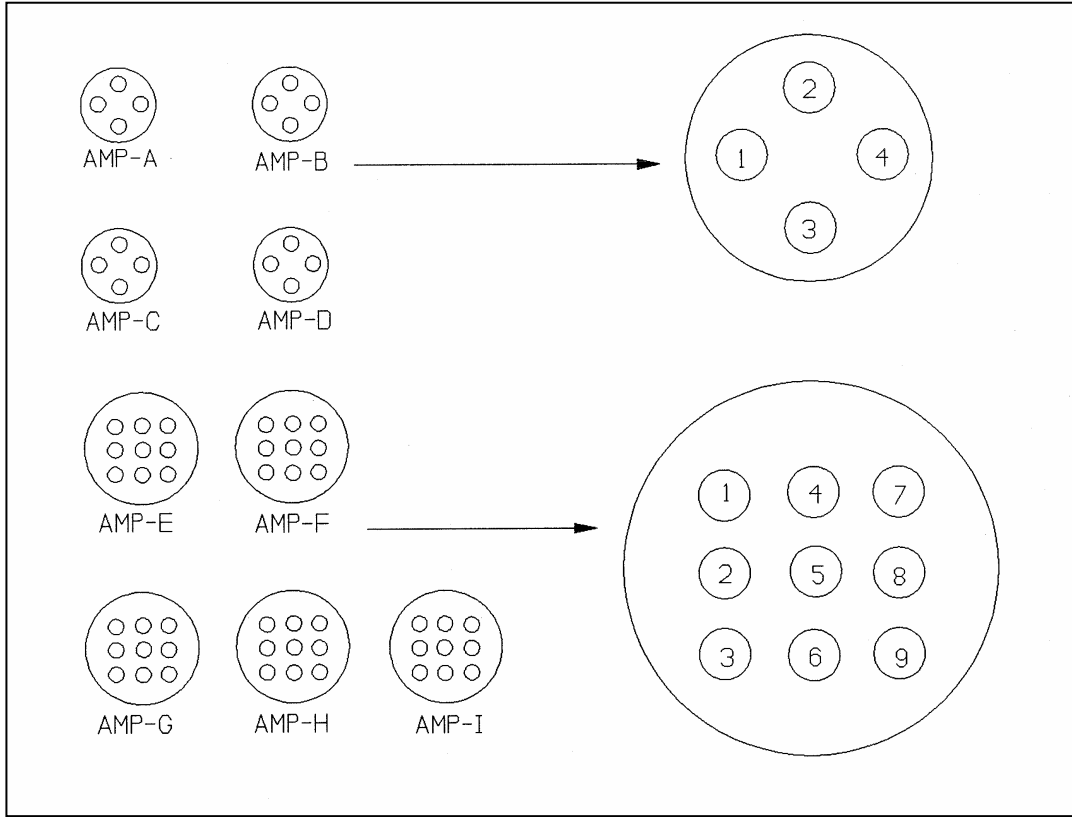

Figure 4-6. Datalogging and Control Subsystem Connector Panel Diagram (Viewed From Inside the Enclosure).
**CONNECT CABLES** Connect the following cables to the connector panel on the bottom outside of the enclosure after inspecting each connector for dust and debris. Figure 4-6, Datalogging and Control Subsystem Connector Panel Diagram (Viewed From Inside the Enclosure), and Table 4-1, Datalogging and Control Subsystem Connector Panel Description, describe the connectors on the subsystem:
**CHECK SIGNAL POWER** Check that the signal power connector is connected to the datalogging and control subsystem. Refer to Figure 4-6 and Table 4-1 for datalogging and control subsystem connector information.